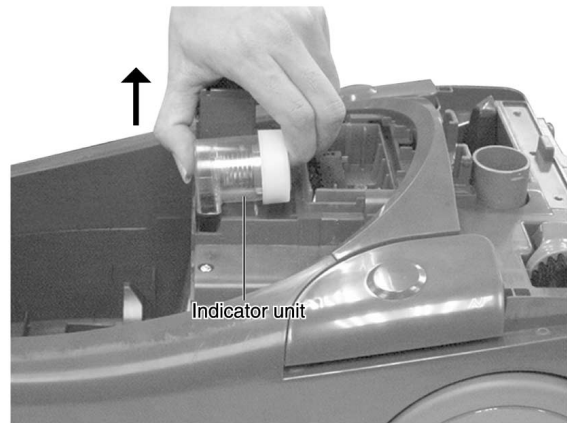

Fig.5
5. Remove the Indicator unit upward. (Fig.5)